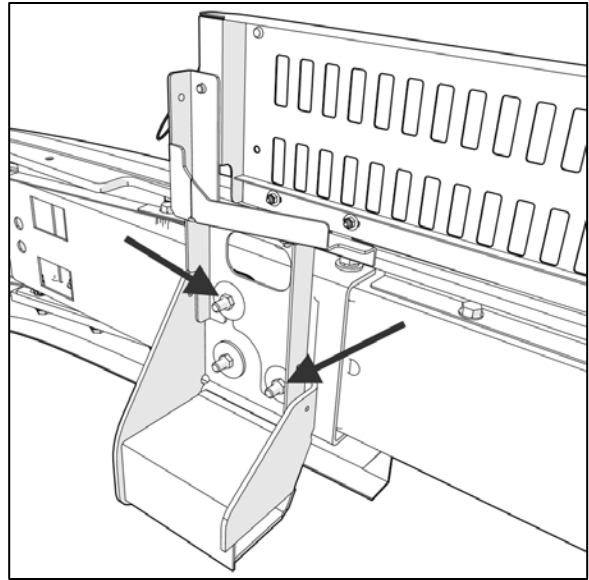

FIGURE 9
9. Tighten all bumper nuts (4) (Figure 9).